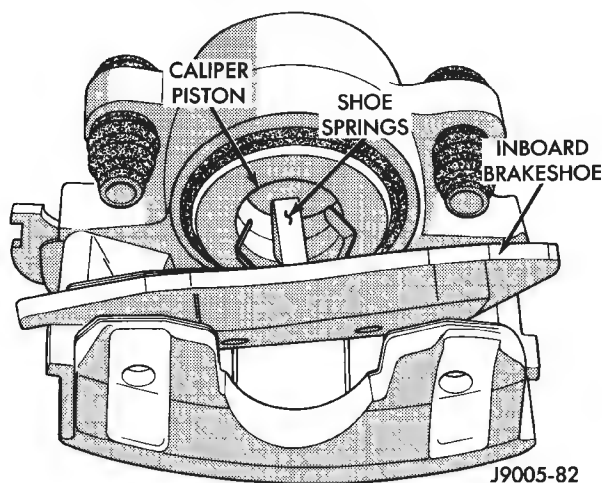

Fig. 11 Installing Inboard Brakeshoe
(3) Keep new or original brakeshoes in sets. Do not interchange them.
(4) Install inboard shoe in caliper (Fig. 11). Be sure shoe retaining springs are fully seated in caliper piston.
install caliper over rotor and seat upper ends of brakeshoes on top mounting ledge (Fig. 11).